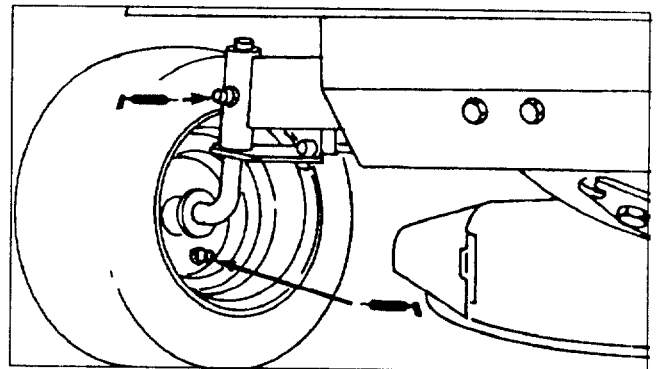

Figure 12
1. Wipe (4) grease fittings on spindles and wheels (Fig. 12) with a clean rag. If there is paint on front of fittings, scrape it off.
2. Lubricate both axle spindles w/No. 2 general purpose grease (Fig. 12). Continue to pump grease until it oozes out the spindle. Wipe up any excess grease
3. Lubricate both front wheels w/No. 2 general purpose grease (Fig. 12). Pump grease gun until grease oozes. Wipe up any excess grease.